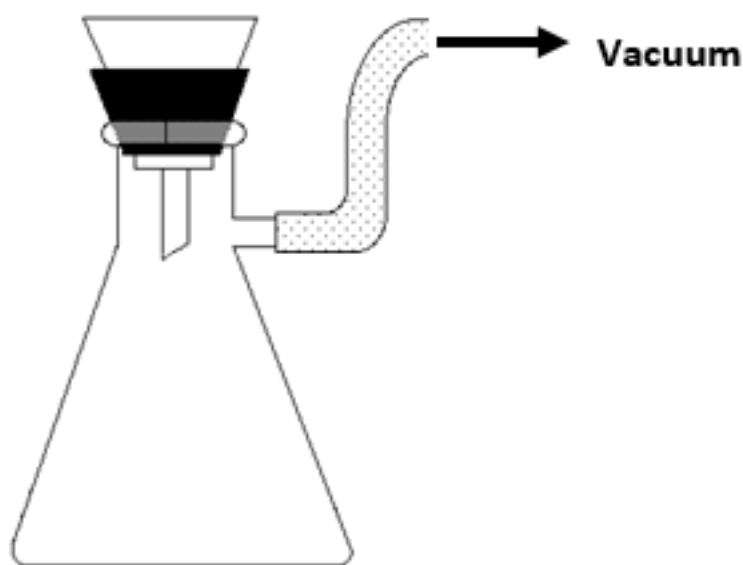

Figure 2. Filtering apparatus
- While the crystals are forming in step 4, set up the vacuum filtration apparatus as shown in Figure 2. This apparatus consists of a 125 mL filter flask, a black #3 neoprene adapter, and a plastic filtering funnel with a white fritted glass filter inside. Clamp the filter flask securely to the support rods. Wet the tip of the thick rubber tubing and connect it to the flask from vacuum supply in the lab.